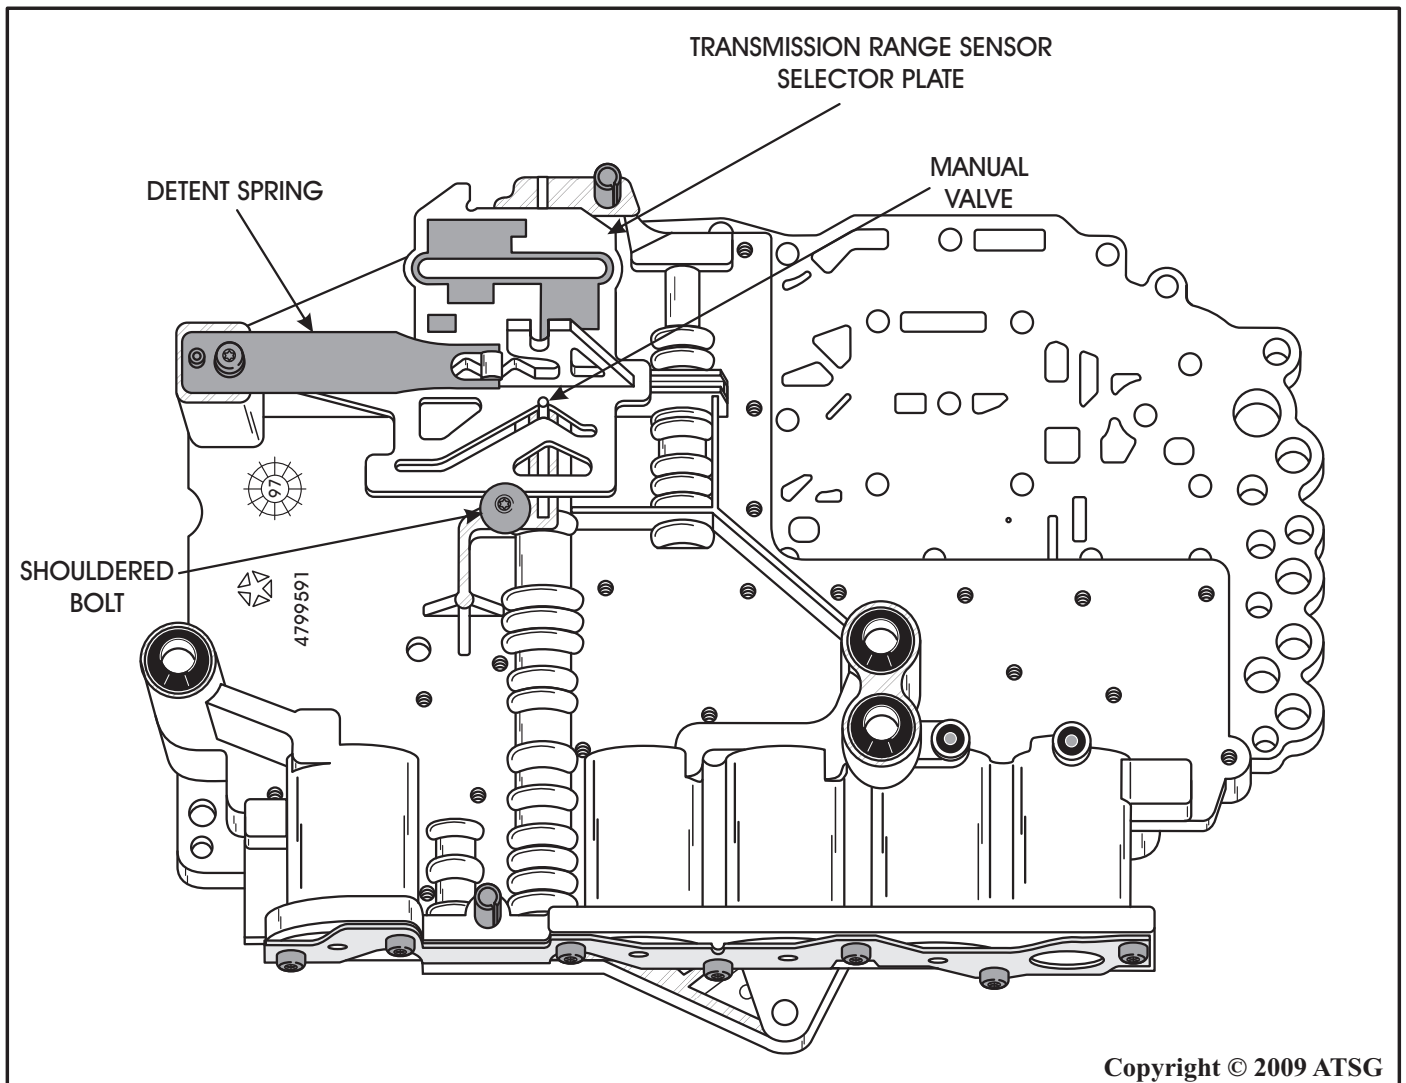

Figure 103
15. Install the manual valve into the manual valve bore in the valve body with the stem facing up and engaged in the groove (See Figure 103).
16. Install the transmission range sensor selector plate into the groove in the valve body and over the stem on the manual valve (See Figure 103).
17. Install the shouldered retaining bolt for the transmission range sensor selector plate and torque the bolt to 4.5 Nm (40 in lbs). Refer to Figure 103.
18. Install the manual valve detent spring and bolt and torque bolt to 4.5 Nm (40 in lbs). Refer to Figure 103.